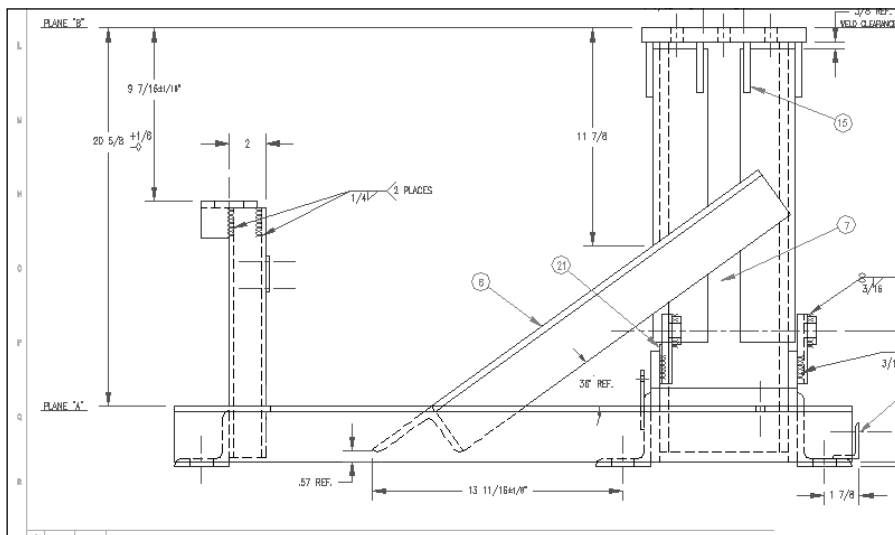

Figure 10-13: The washing machine base.
4. Save your drawing. It should look like Figure 10-13.